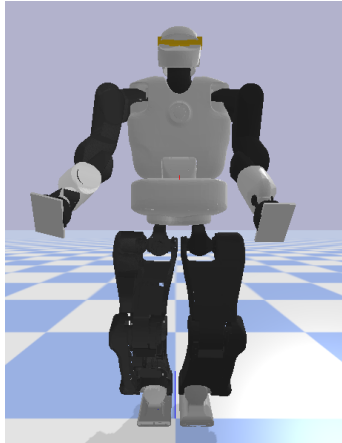

Figure 1: Prepare a home posture standing simulation for the Talos robot
1. Prepare a simulation with a robot standing as shown in Figure 1. Use a whole body controller as in Tutorial 4 including a task to control the CoM and the whole-body angular momentum. Save the python script as `t61.py`